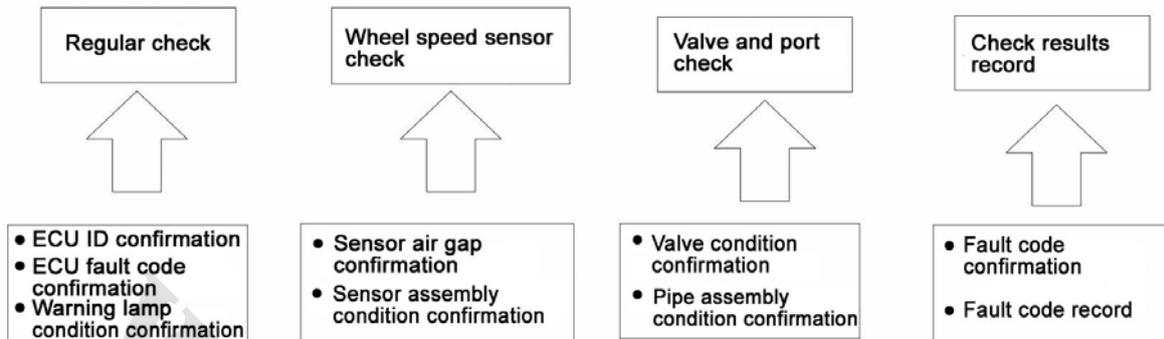

Fig. 3-15
I. Fault Detection Procedure (Fig. 3-15)